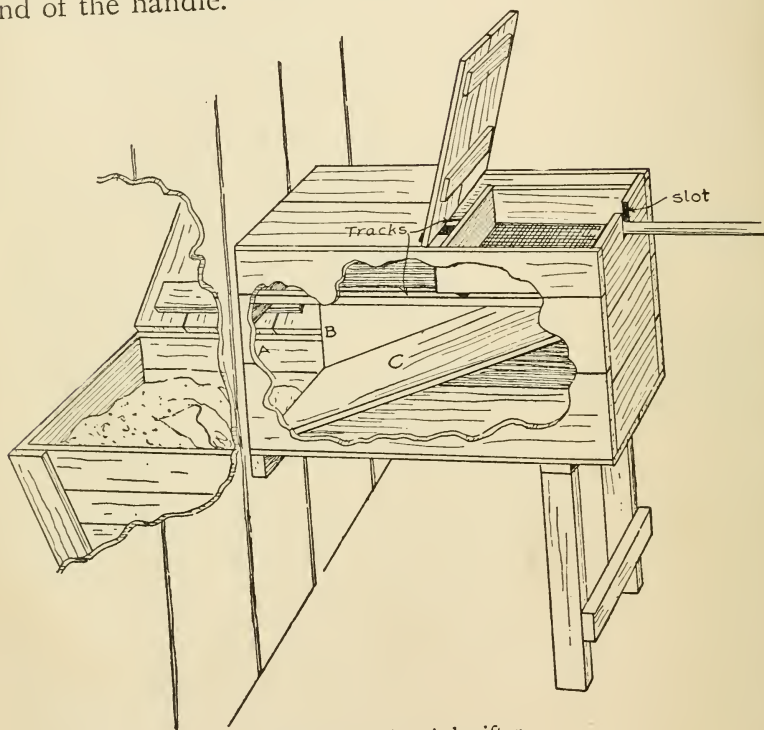

FIG. 48. — An Ash-sifter.
**An Ash-sifter** that is dust-proof and very satisfactory is shown in Fig. 48. It is made out of a packing-case about three feet long, eighteen inches wide, and twenty-four inches deep.